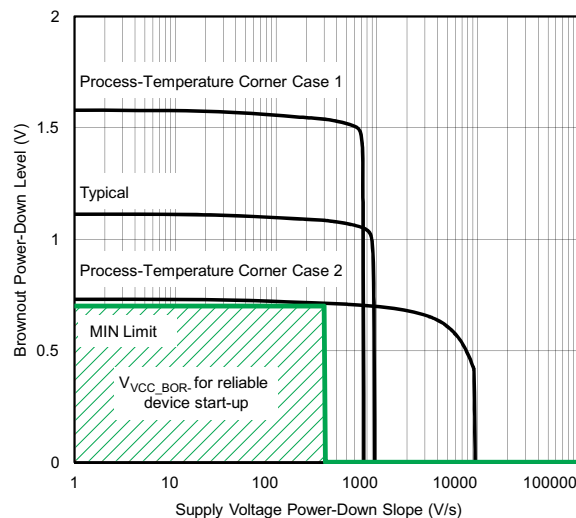

图 5-6. Brownout Power-Down Level vs Supply Voltage Down Slope
- (1) In case of a supply voltage brownout, the device supply voltages must ramp down to the specified brownout power-down level (V_{VCC_BOR-}) before the voltage is ramped up again to ensure a reliable device start-up and performance according to the data sheet including the correct operation of the on-chip SVS module.
- (2) Fast supply voltage changes can trigger a BOR reset even within the recommended supply voltage range. To avoid unwanted BOR resets, the supply voltage must change by less than 0.05 V per microsecond ($\pm 0.05 \text{ V}/\mu\text{s}$). Following the data sheet recommendation for capacitor C_{DVCC} should limit the slopes accordingly.
- (3) The brownout levels are measured with a slowly changing supply. With faster slopes, the MIN level required to reset the device properly can decrease to 0 V. Use the graph in 图 5-6 to estimate the V_{VCC_BOR-} level based on the down slope of the supply voltage. After removing V_{CC} , the down slope can be estimated based on the current consumption and the capacitance on DVCC: $dV/dt = I/C$ where $dV/dt = \text{slope}$, $I = \text{current}$, $C = \text{capacitance}$.
- (4) The brownout levels are measured with a slowly changing supply.